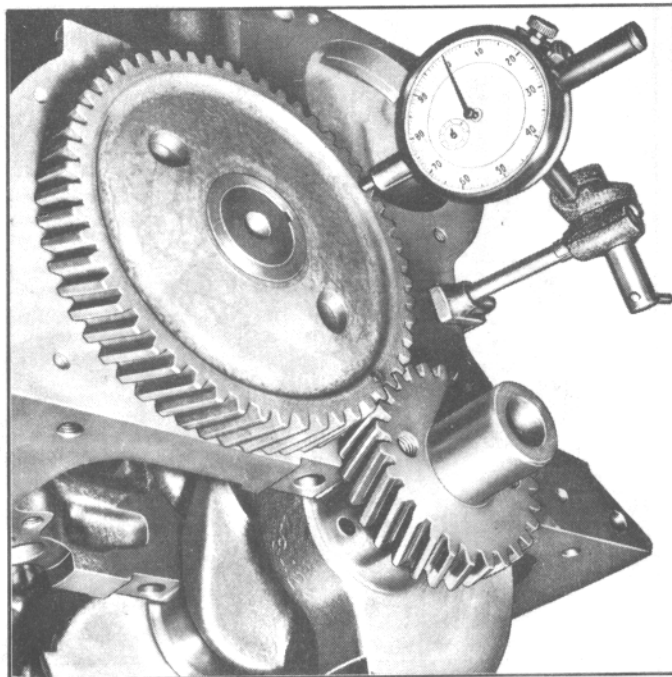

Fig. 68. Checking Timing Gear Runout
5. Check camshaft gear run out with a dial indicator (Fig. 68). The camshaft gear run out should not exceed .004", and the crankshaft gear run out should not exceed .003".